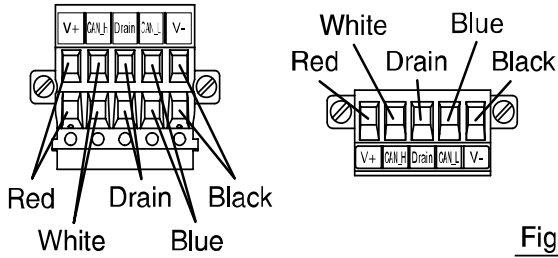

Fig.1
(1) Make sure to connect the signal cables to designated pins (Refer to Fig.1).